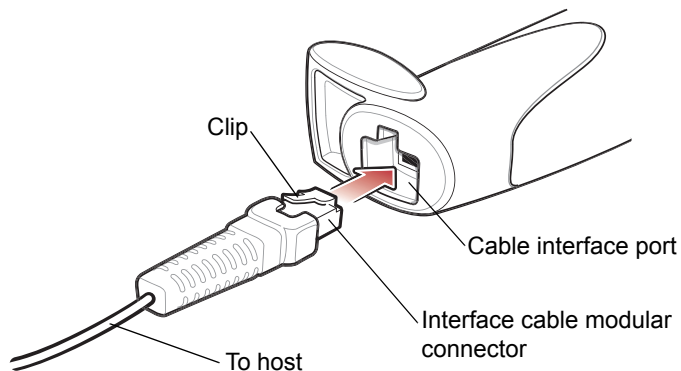

Figure 1-2 *Installing the Cable*
1. Plug the interface cable modular connector into the cable interface port on the bottom of the scanner handle. See Figure 1-2.